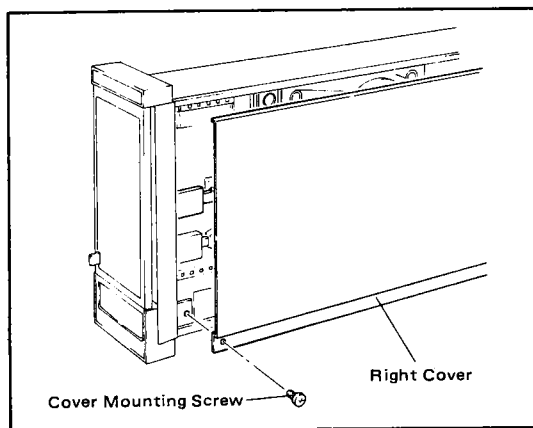
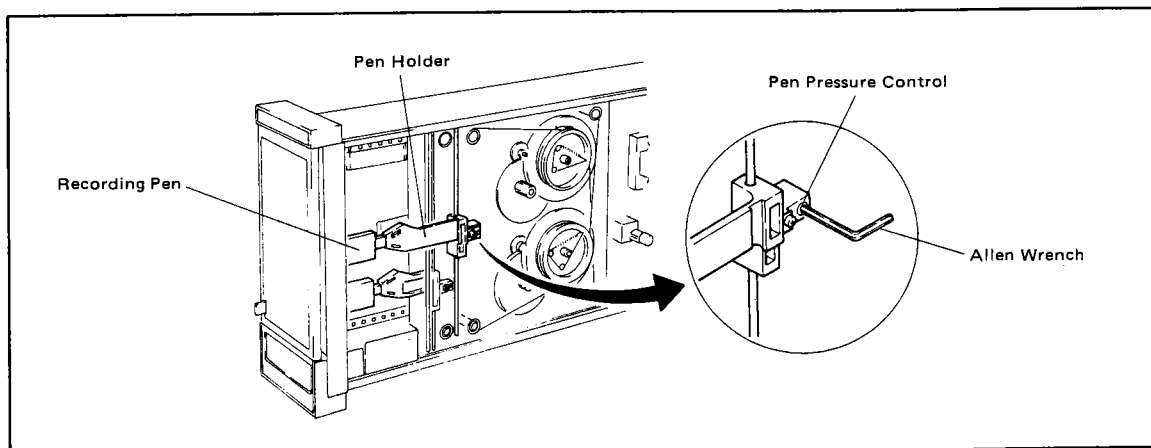

Figure 6-3. Side Cover Removal.
Figure 6-4. Pen Pressure Adjustment.
- (1) Remove two screws from the right side (See Figure 6-3).
- (2) Set the recording pen to the approximately 50% position on the chart.
- (3) Adjust the pen pressure control (located in the pen holder) using a 3 mm Allen Wrench (See Figure 6-4).